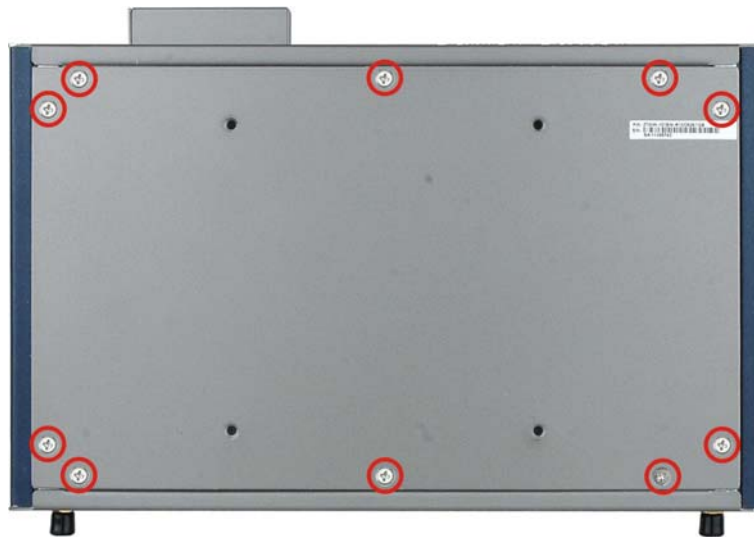

Figure 3-3: Bottom Panel Retention Screws
Step 1: Remove the bottom panel by removing the 10 retention screws from the bottom panel (Figure 3-3).